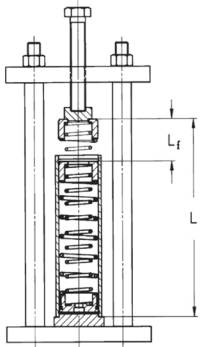

Fig. 7 – Spring unloading tool
The equipment shown in Fig. 7 is necessary for unloading or preloading the springs to enable the spring return unit to be dismantled and assembled. Table 3 shows the compression force, free height and preloading travel necessary. In addition, the tool shown in Fig. 13 is necessary for fitting the piston into the spring-return unit in size 1-3 actuators
- 4 Secure the spring-return unit in the spring unloading tool (Fig. 7). The spring guide (26) should be in contact with the push-rod of the tool. If necessary, place a protective plate under the push-rod.
- 5 Press the spring guide (26) and springs (25) into the cylinder (24), so that the entire locking ring (27) is exposed.
- 6 Carefully remove the locking ring (27) without damaging it.
- 7 Unload the spring completely. Remove the spring guide (26) and the springs (25). Take care not to damage the cylinder bore.
- 8 Remove the cylinder from the tool and carefully remove the remaining locking ring (27). Then push the piston out from this side.
- 2 Fit a new spring piston assembly (21, 22, 23). For sizes 1-3, the special tool shown in Fig. 7 which
- 3 Fit the locking ring (27) into the groove in the cylinder, and then push the spring piston against it so that the locking ring will be locked by the piston (see Fig. 7).
- 4 Insert the springs (25) into the cylinder so that their ends fit into the grooves on the inside of the spring piston. Take care not to damage the cylinder bore.
- 5 Place the unit in the spring unloading tool shown in Fig. 7.